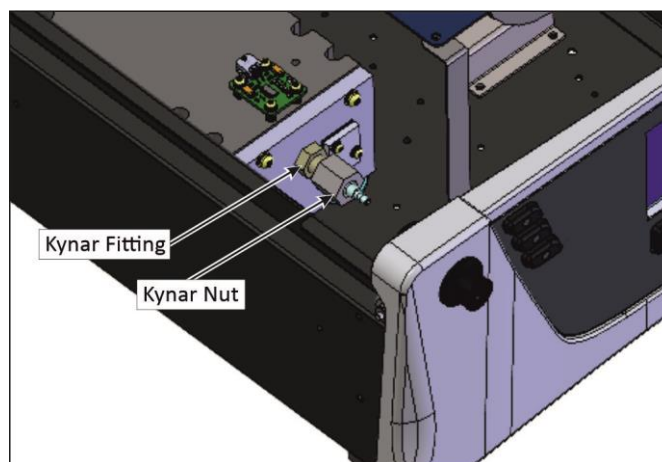

Figure 138 – Kynar Fitting Containing Orifice and Sintered Filter
2. Refer to Figure 138. Unscrew the Kynar nut from the fitting (anti-clockwise).